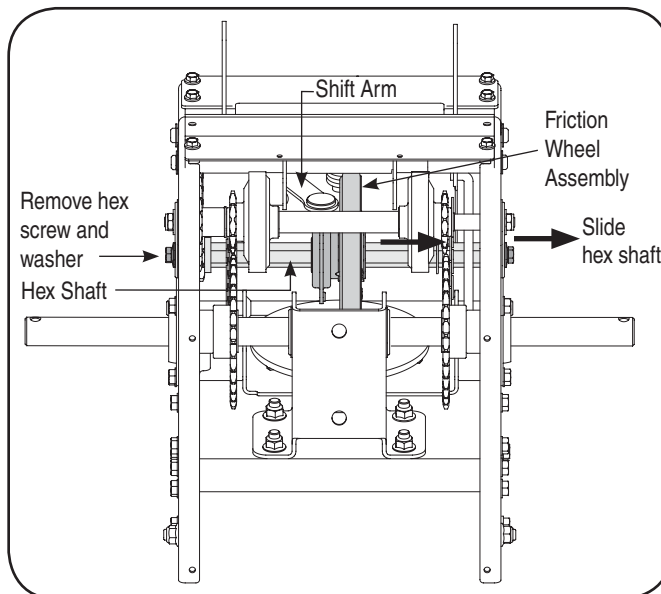

Figure 6-12
- Using a 3/4" wrench, hold the hex shaft and remove the hex bolts and cupped washer and bearing from left side of the frame. Refer to Figure 6-12.